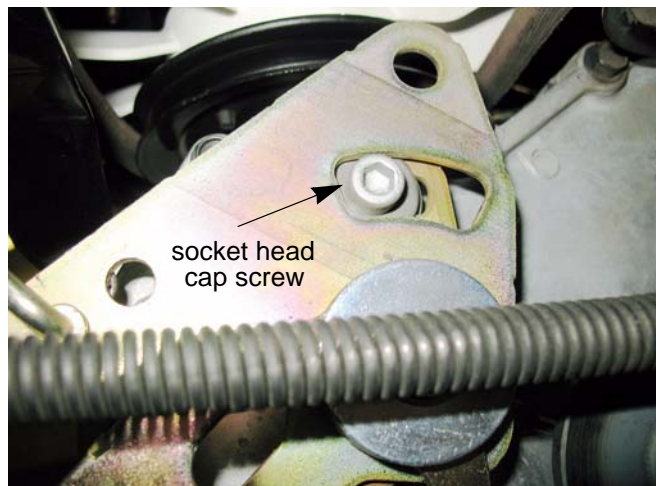

Figure 5.30
10. Loosen the socket head cap screw using a 1/4" hex key. See Figure 5.30.